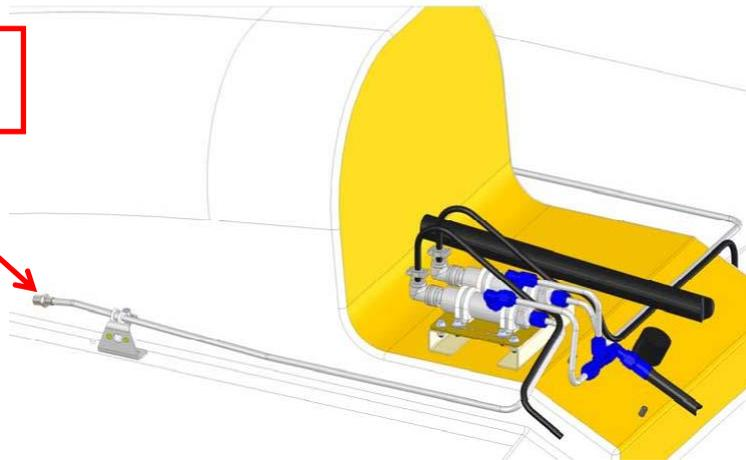

Figure F 1 Low Pressure Hose
3. Connect the IBF accessory hose (P/N: 115-00644) to the end of the Static(Ps) hose (Fig. F.1).